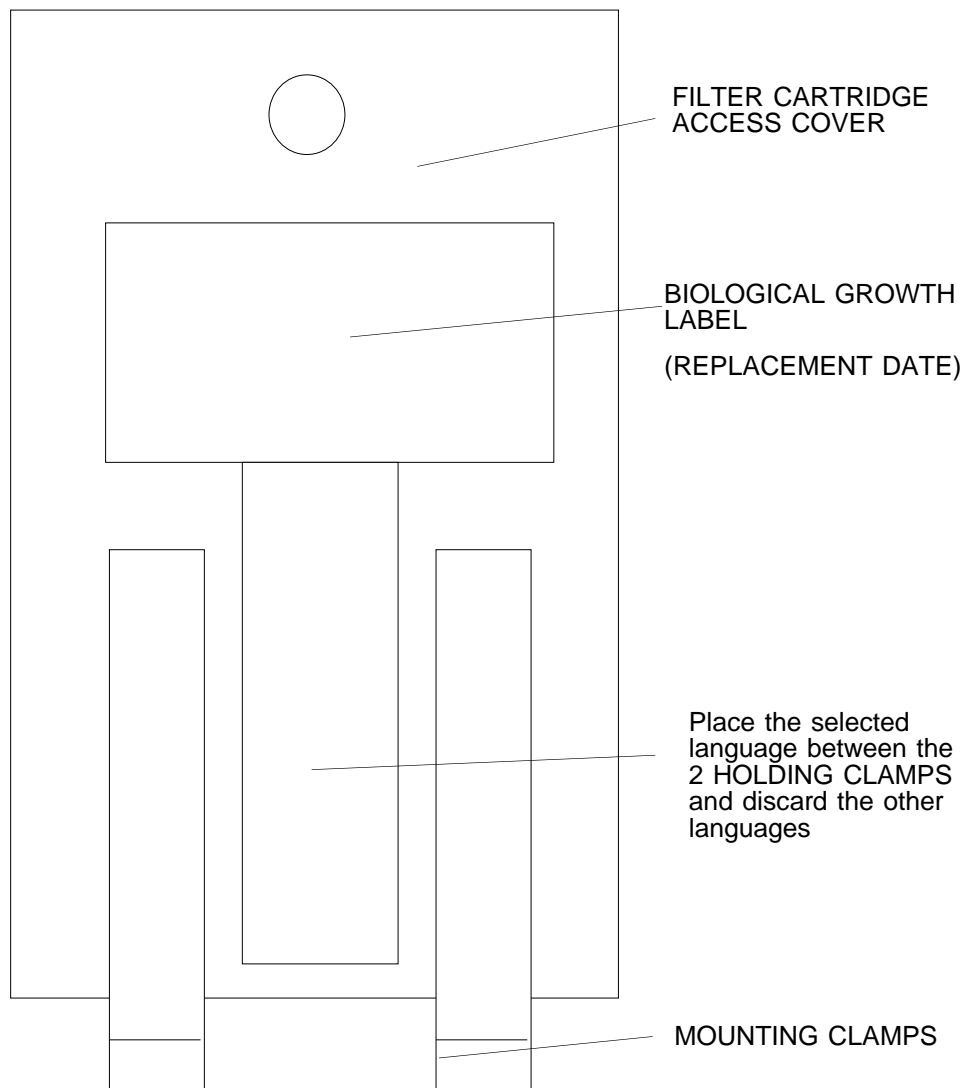

figure 4-4
6. Place the BIOLOGICAL GROWTH LABEL at the inner side of the FILTER CARTRIDGE ACCESS COVER. See figure 4-4 on the next page.